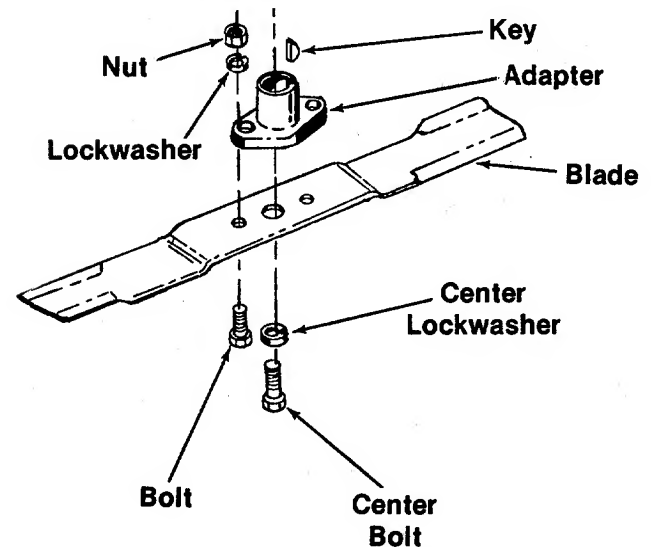

FIGURE 16
3. Be careful not to lose the key on the crankshaft. (See figure 16.)